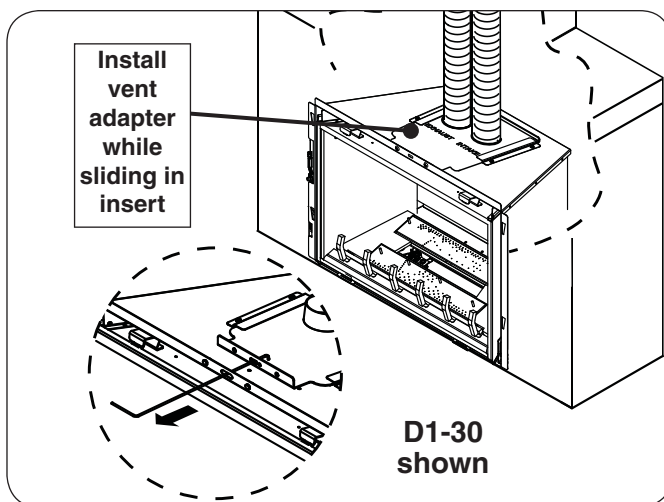

Fig. 26-3 Fully slide-in unit / install vent adapter
5. Slide the vent adapter into the top of the direct vent insert as shown in Fig. 26-3. Simultaneously slide the direct vent insert fully into the fireplace. The supplied wire hook can be used to assist in pulling the vent adapter forward into the insert. Fasten the vent adapter using the two hex bolts and a $\frac{7}{16}$ " nut driver.